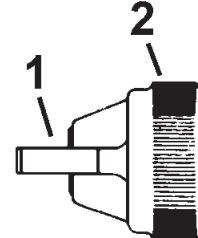
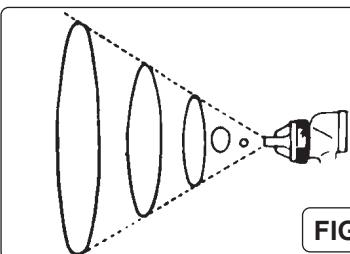

FIG.5
FIG.6
- d) In normal operation, the wings on the cup are horizontal as fig.5. This provides a vertical fan-shaped pattern, fig.6 which gives the optimum coverage when moving the gun back and forth, parallel to the work surface.